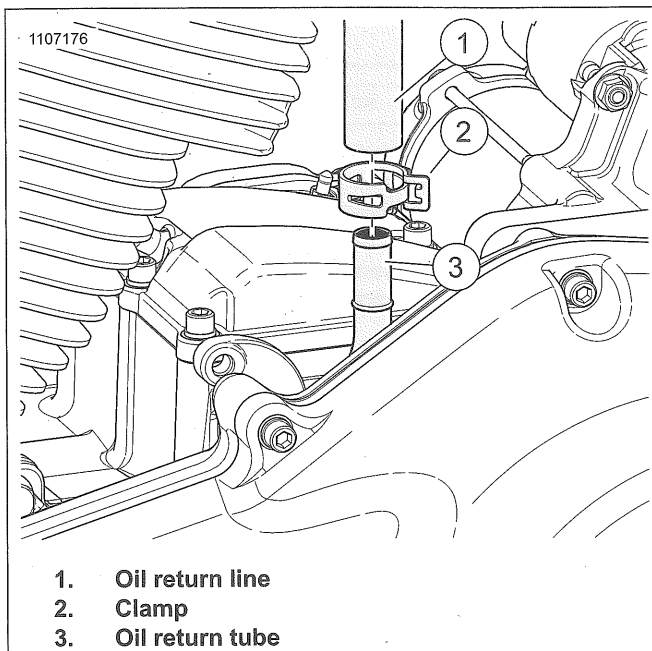

Figure 5-76. Oil Return Line
6. See Figure 5-76. Disconnect oil return line (1).
- b. See Figure 5-76. Disconnect oil return hose (1) from return tube (3).
- a. See Figure 5-76. Connect oil return hose (1) to return tube (3). Secure with clamp (2).